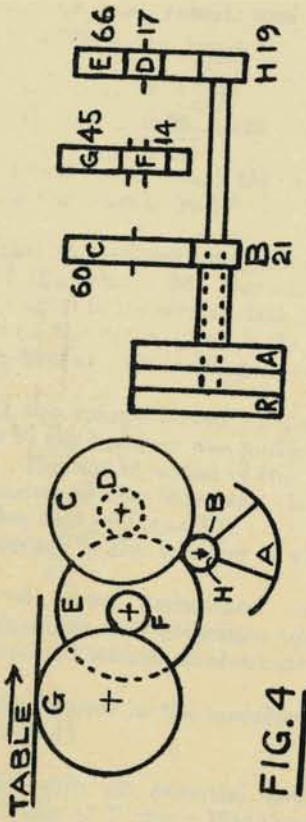

FIG. 4
4. For the planing machine drive in Fig. 4 the pitch of the rack teeth on the moving table is 1.5 in. How many r.p.m. of the belt pulley A will give a forward table speed of 30 ft. per minute?